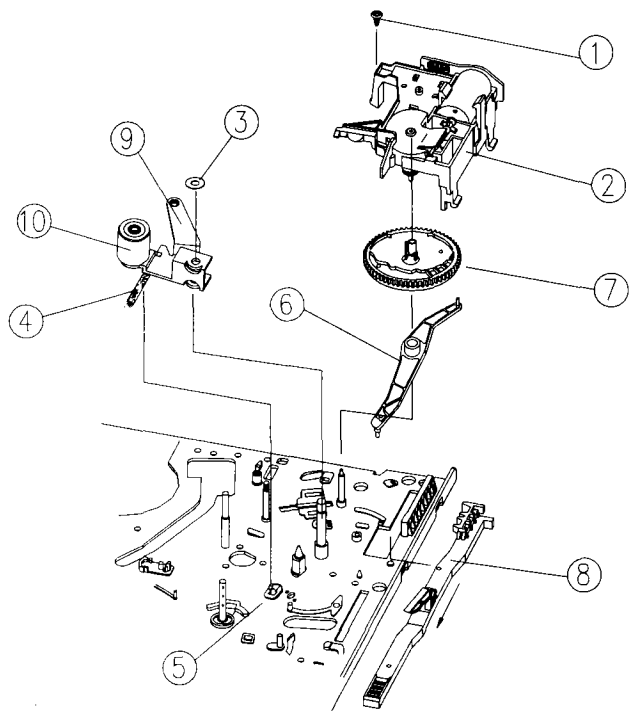

Fig.3-11 L/C BRKT, PINCH LEVER, CAM GEAR, RELAY LEVER, F/L RACK REMOVAL
3-6. L/C BRACKET ASS'Y REMOVAL (See Fig.3-11)
3-7. PINCH LEVER TOTAL ASS'Y REMOVAL (See Fig.3-11)
3-8. CAM GEAR, RELAY LEVER AND F/L RACK REMOVAL (See Fig.3-11)
- a. Remove the CAM GEAR ⑦ from the MAINBASE. (Fig.3-11)
- b. Remove the RELAY LEVER ⑥ from the MAINBASE. (Fig. 3-11)
- c. Remove the F/L RACK ⑧ from the MAINBASE by pulling it in the direction of the arrow.